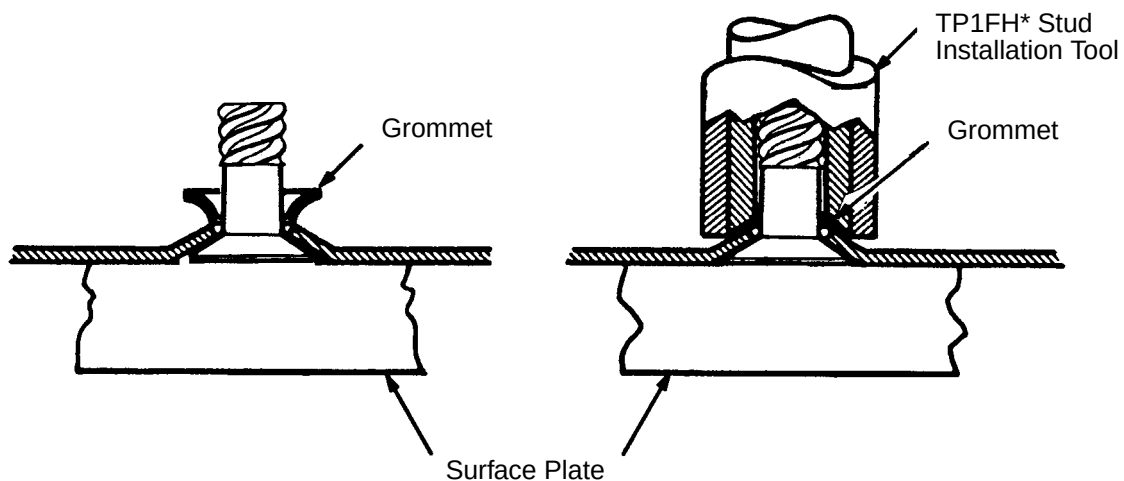

Figure 6 - Installation of Flush Head Stud
- Step 4. Place a TP1FH* stud installation tool over the stud and the grommet as shown in Figure 6.